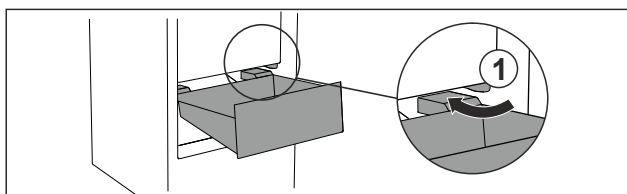

Fig. 69
- Guide drawer in at an angle around the stoppers *Fig. 69 (1).*